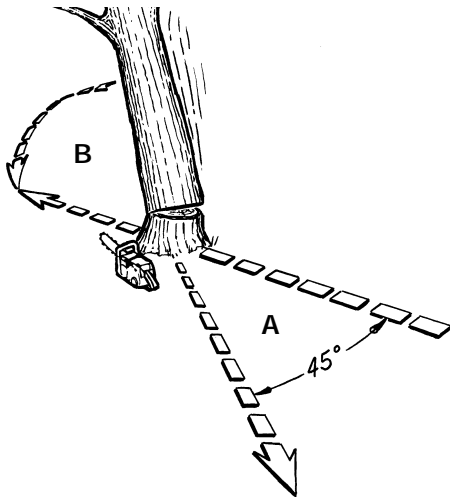

Fig. 12
WARNING: A retreat path (A) should be planned and cleared as necessary before cuts are started. The retreat path should extend back and diagonally to the rear of the expected line of fall, as illustrated in Fig. 12.
WARNING: As the felling cut gets close to the hinge, the tree should begin to fall. When tree begins to fall, remove saw from cut, stop engine, put chain saw down, and leave area along retreat path (Fig. 12).